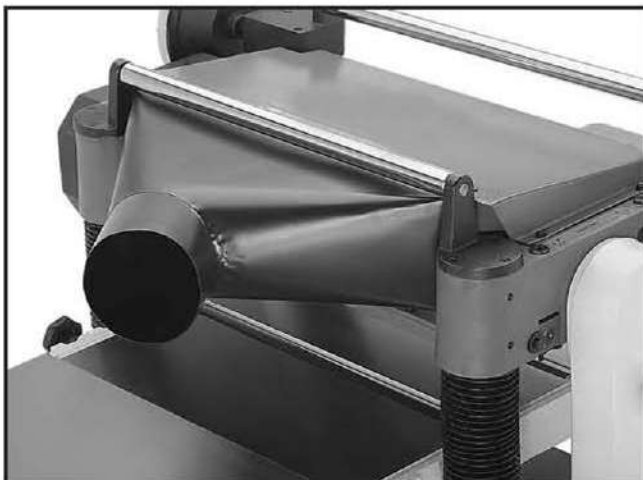

Figure 10. Dust hood attached.
8. **Model CP220 :** Attach the dust hood to the top of the planer with (3) M6-1 x 10 hex bolts, 6mm flat washers, and M6-1 hex nuts as shown in **Figure 10**, then attach the bottom of the dust hood to the planer with the M8-1.25 x 20 cap screws.